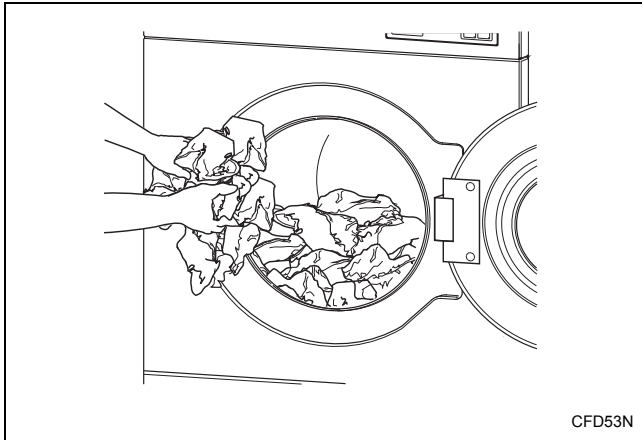

Figure 4
3. Load to capacity whenever possible. **DO NOT OVERLOAD.** Refer to *Figure 4*.